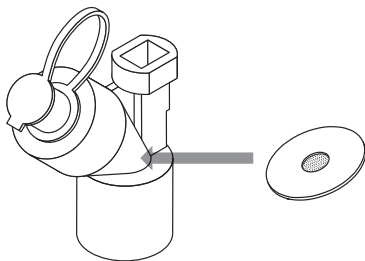

Figure 2. Aerogen Palladium Vibrating Mesh Technology
- Do not apply undue pressure to the domed aperture plate in the centre of the nebuliser (Figure 2).